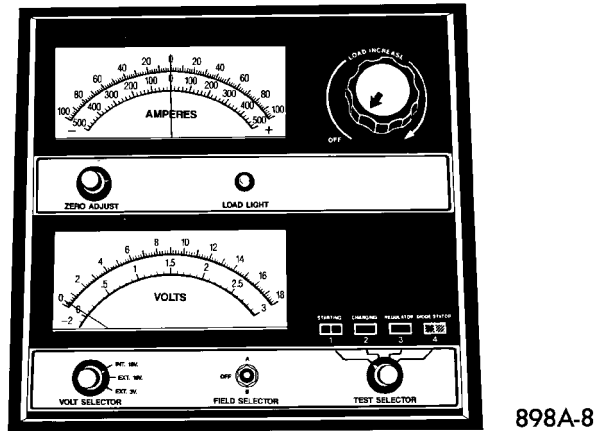

Fig. 6 Volt Ampere Tester
The following procedure will require a suitable volt-ampere tester (Fig. 6).
(4) Rotate and hold the ignition switch in the START position. Observe the volt-ampere tester (Fig. 6).